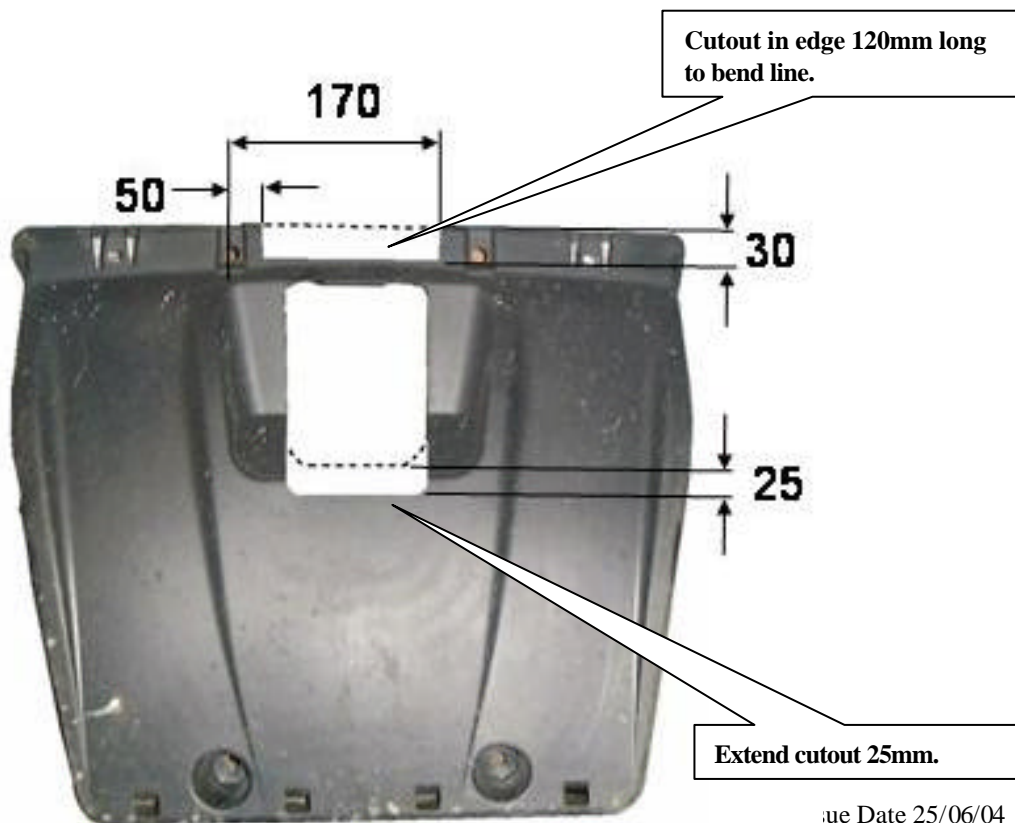

Fig 2
8. Open out hole found in step 7 to take spacer tube. Fig 2 (NOTE: - BOTTOM PANEL ONLY).